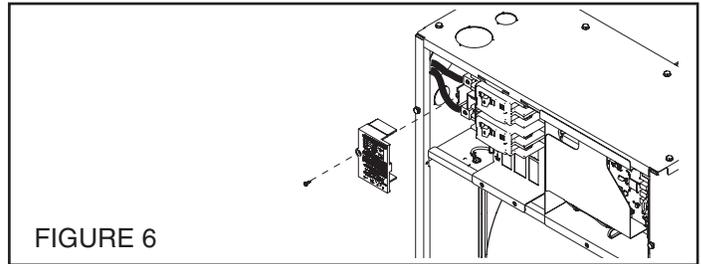

FIGURE 6
8. Connect the power supply ground wire to the ground lug installed in step 4. Connect the high voltage field wiring to the terminal block lugs on the single point power entry jumper. Tighten all wires per the torque settings on the single power entry kit cover plate. Reinstall the cover onto the single power entry jumper as shown in Figure 6.